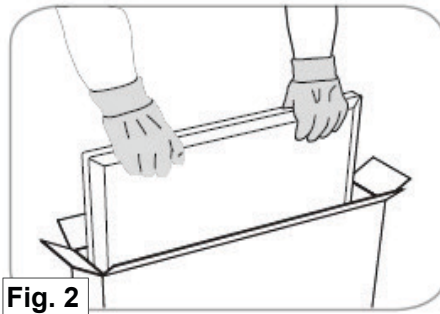

Fig. 2
2. Remove LPA-CP fixture from packaging and remove any protective films (Fig. 2).